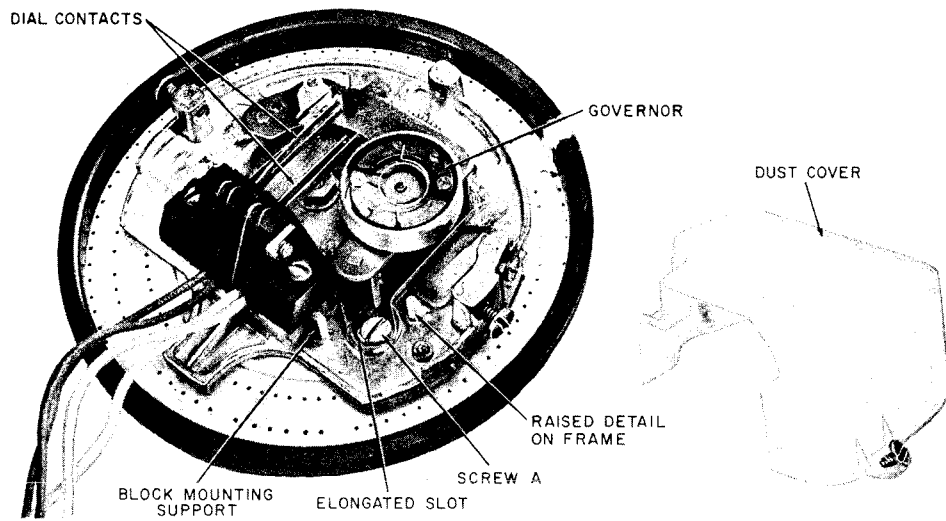
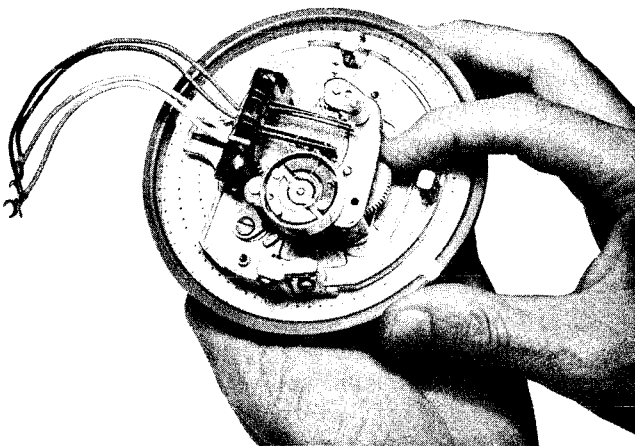

Fig. 26—7-Type Dial, Dust Cover Removed
Fig. 27—Holding Intermediate Gear Immobile
(3) Remove the dust cover from dial (Fig. 26).
(4) Grasp rim of fingerwheel with thumb and fingers. Rotate fingerwheel about 1 inch and hold in this position.
(5) Hold intermediate gear immobile with index finger of other hand (Fig. 27).
(6) Very gently rotate fingerwheel back and forth just enough to feel any backlash.
(7) Rotate fingerwheel to about 3/4 distance of its travel. Repeat steps (4), (5), and (6).